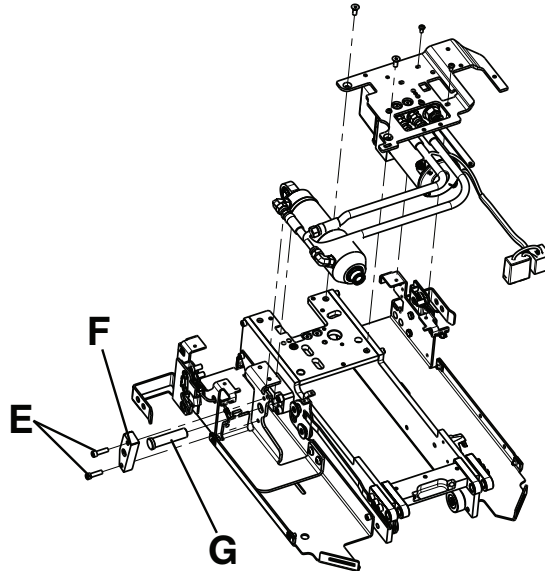

Figure 36 – Hydraulic cylinder pin location
- Using a 3/16" hex wrench, remove the two screws (E) that secure the cylinder bracket (F) to the trolley and remove the end cap cylinder pin (G) (Figure 36). Save the screws.